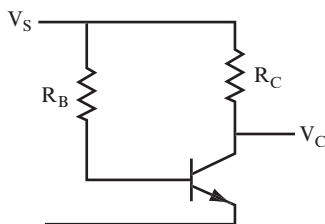

FIGURE 12.3
- 22.** Using the circuit shown in Figure 12.3, find the DC collector voltage, V_C , if $V_s = 28$ volts, $\beta = 10$, $R_B = 200 \text{ k}\Omega$, and $R_C = 10 \text{ k}\Omega$. _____
- 23.** Again, using the circuit shown in Figure 12.3, find R_B if $V_s = 12$ volts, $\beta = 250$, $R_C = 2.2 \text{ k}\Omega$, and $V_C = 6$ volts. _____
- 24.** Using the circuit shown in Figure 12.3, find β if $V_s = 10$ volts, $R_B = 100 \text{ k}\Omega$, $R_C = 1 \text{ k}\Omega$, and $V_C = 5$ volts. _____